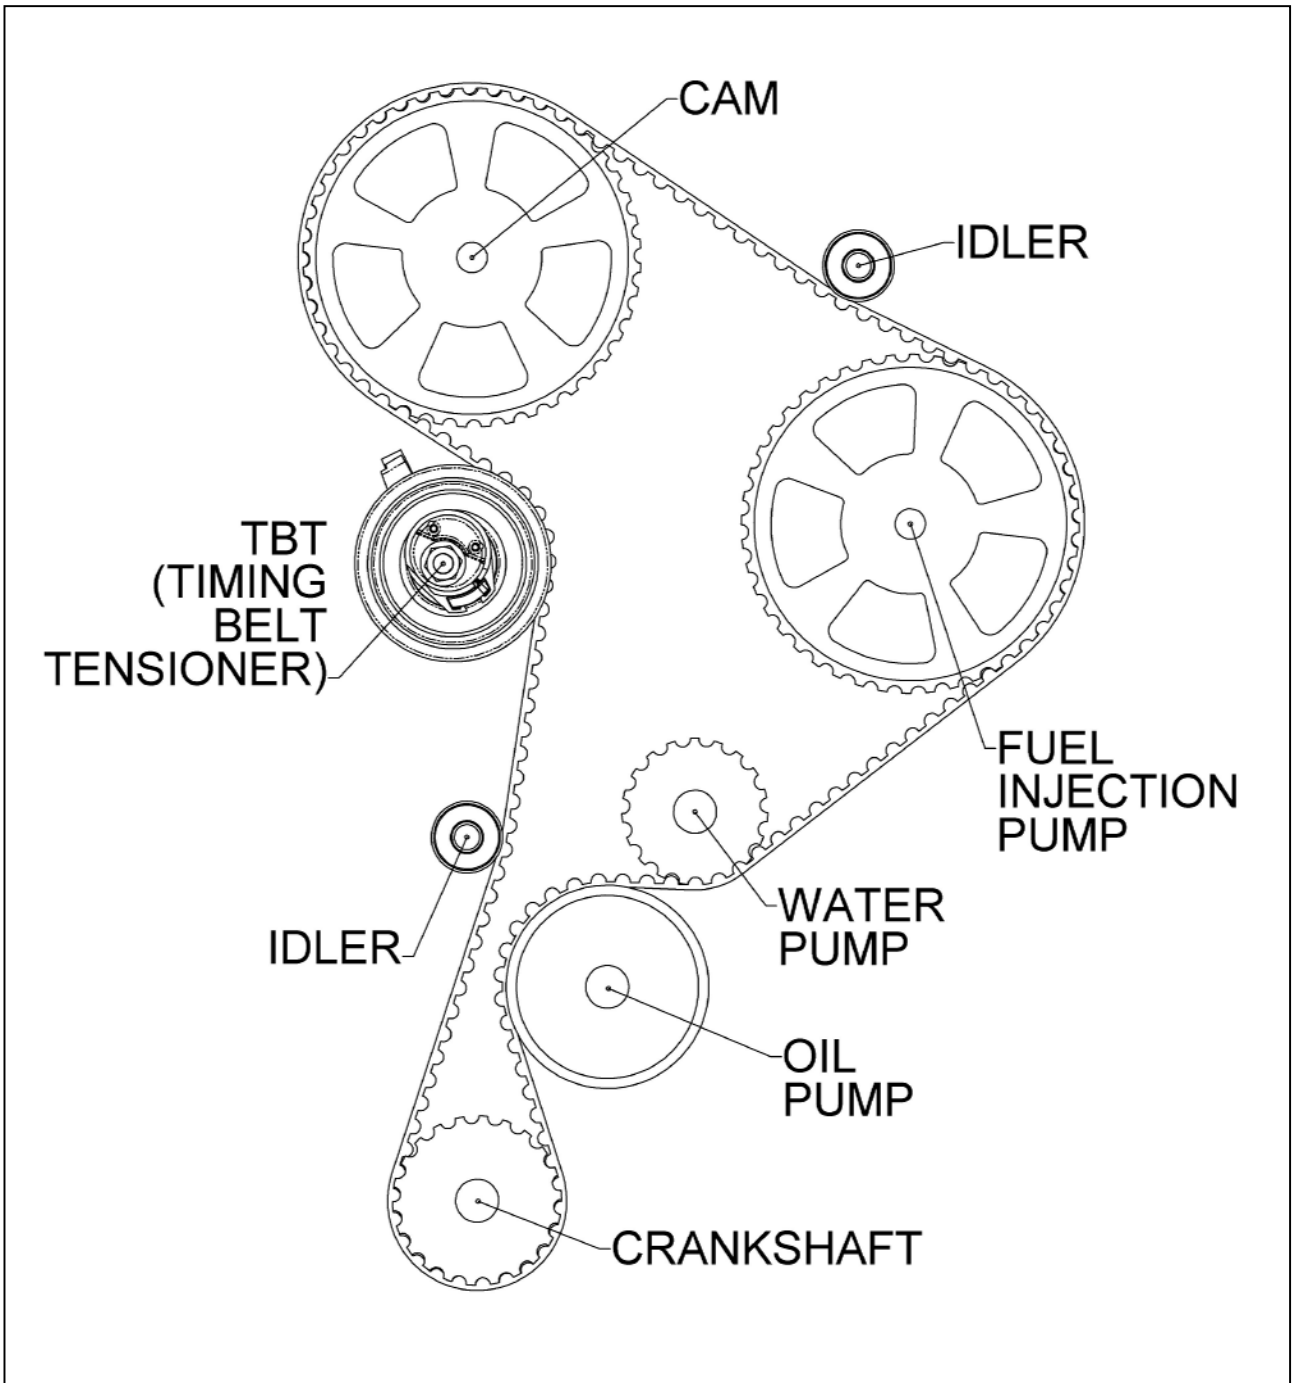

Figure 1: Timing Drive Layout 979592
10. Install the timing belt in a COUNTER CLOCKWISE direction starting with the crankshaft sprocket, being careful to engage the appropriate teeth of all the corresponding sprockets as per drive layout (Figure 1).